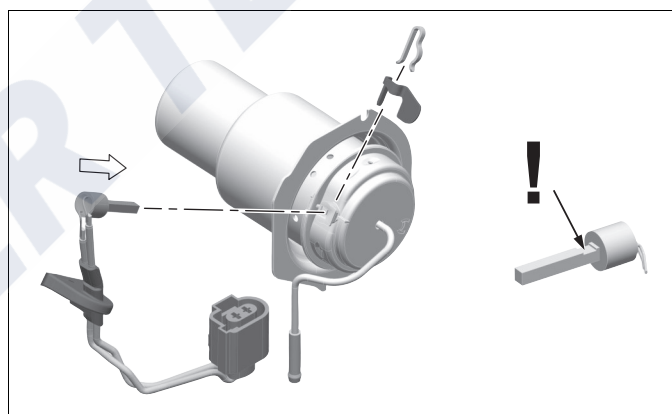

Fig. 27 Fit glow plug
1. Position combustion pipe horizontally with evaporator holder towards the rear (see Fig. 27).